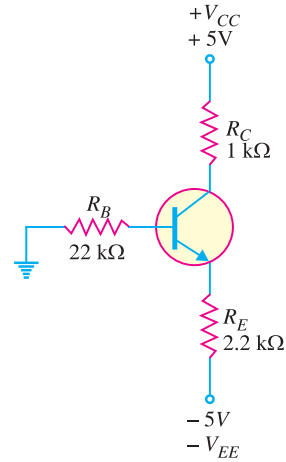

Fig. 9.55
13. To what value can R_E in Fig. 9.55 be reduced without transistor going into saturation? [639Ω]